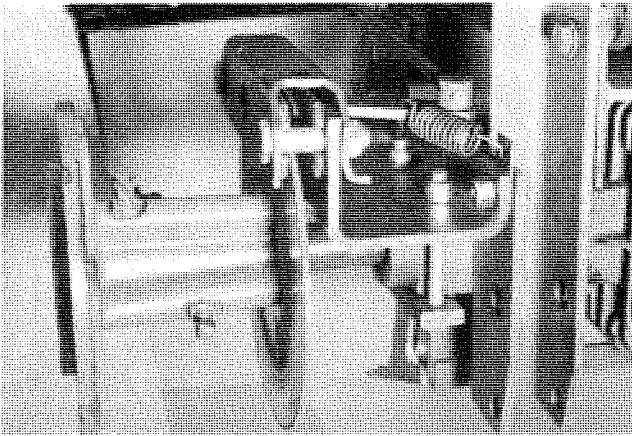

FIGURE 5
Remove each wheel hub and bolt the disc, item 35 to each hub. See Fig. 5 and Fig. 6. Reinstall and tighten each hub so they are flush with the ends of the axle. A minor adjustment may be necessary by sliding hub in or out or the brakes will be too tight.
Place a spring anchor plate, item 37 between the caliper mounting bracket, item 23 and the tractor hitch mounting angle and fasten with bolt, item 26. See Fig. 5.
Complete the mounting bracket installation by adding link 24 and (2)  $\frac{3}{8}$  x  $3\frac{1}{2}$  bolt and nuts as shown in Fig. 5.
Lower the LH caliper unit over the disc and fasten to the mounting bracket with (2)  $\frac{1}{2}$  x  $2\frac{1}{2}$  bolts. See Fig. 5.